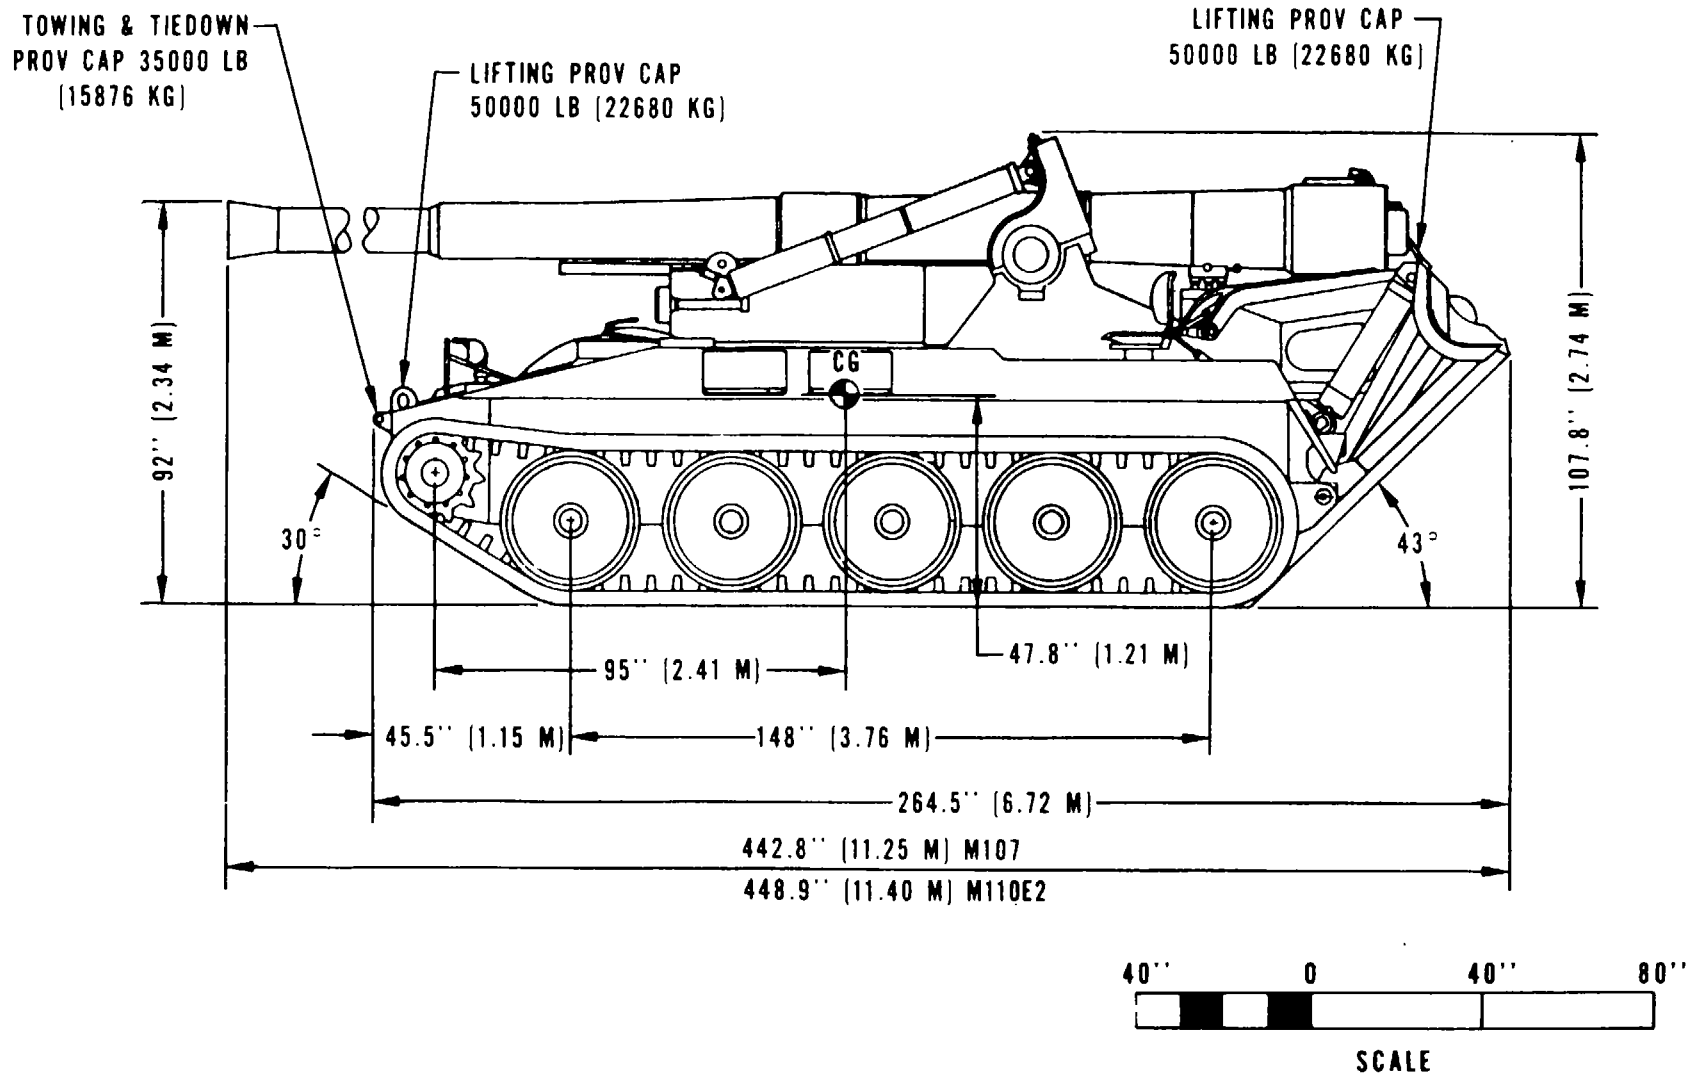

Figure 2-4. Side elevation, gun, M107, and howitzer, M110E2.
d. M110E2 (fig 2-4). The M110E2 is equipped with an 8-inch howitzer.
Data contained in figures 2-4 through 2-6 and table 2-1 are applicable to model number or National stock number (NSN) shown. Changes in model or NSN may affect transportability as related to guidance contained in this manual.